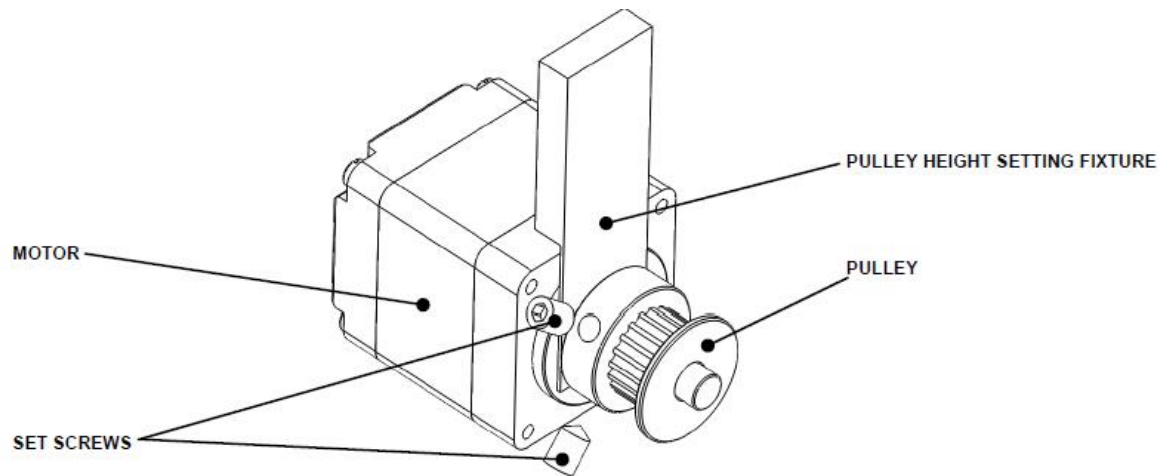

Figure J-12: Attaching the Pulley to the Motor
1. Attach a 20 Tooth Drive Pulley to a new Incubator Motor using the Incubator Pulley Height Setting Fixture (Figure J-12) and two M4x6 Set Screws and Loctite 222. After you have set the pulley with Loctite, remove the height setting fixture.